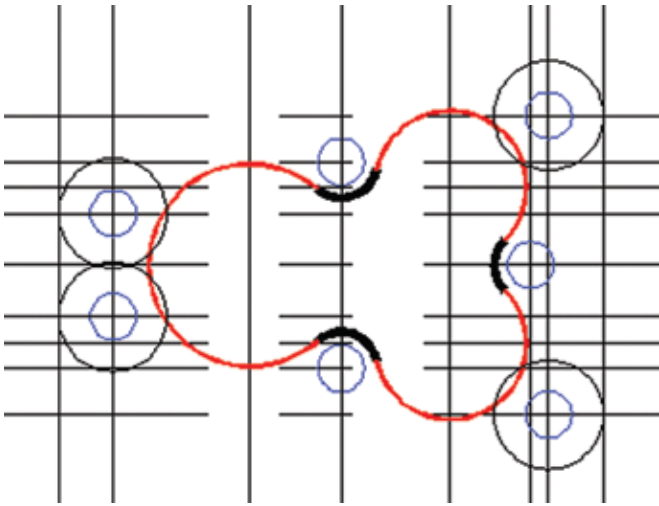

Figure 9.12
31. **Draw a circle** (radius of .375) around each existing corner circle. See Figure 9.12.